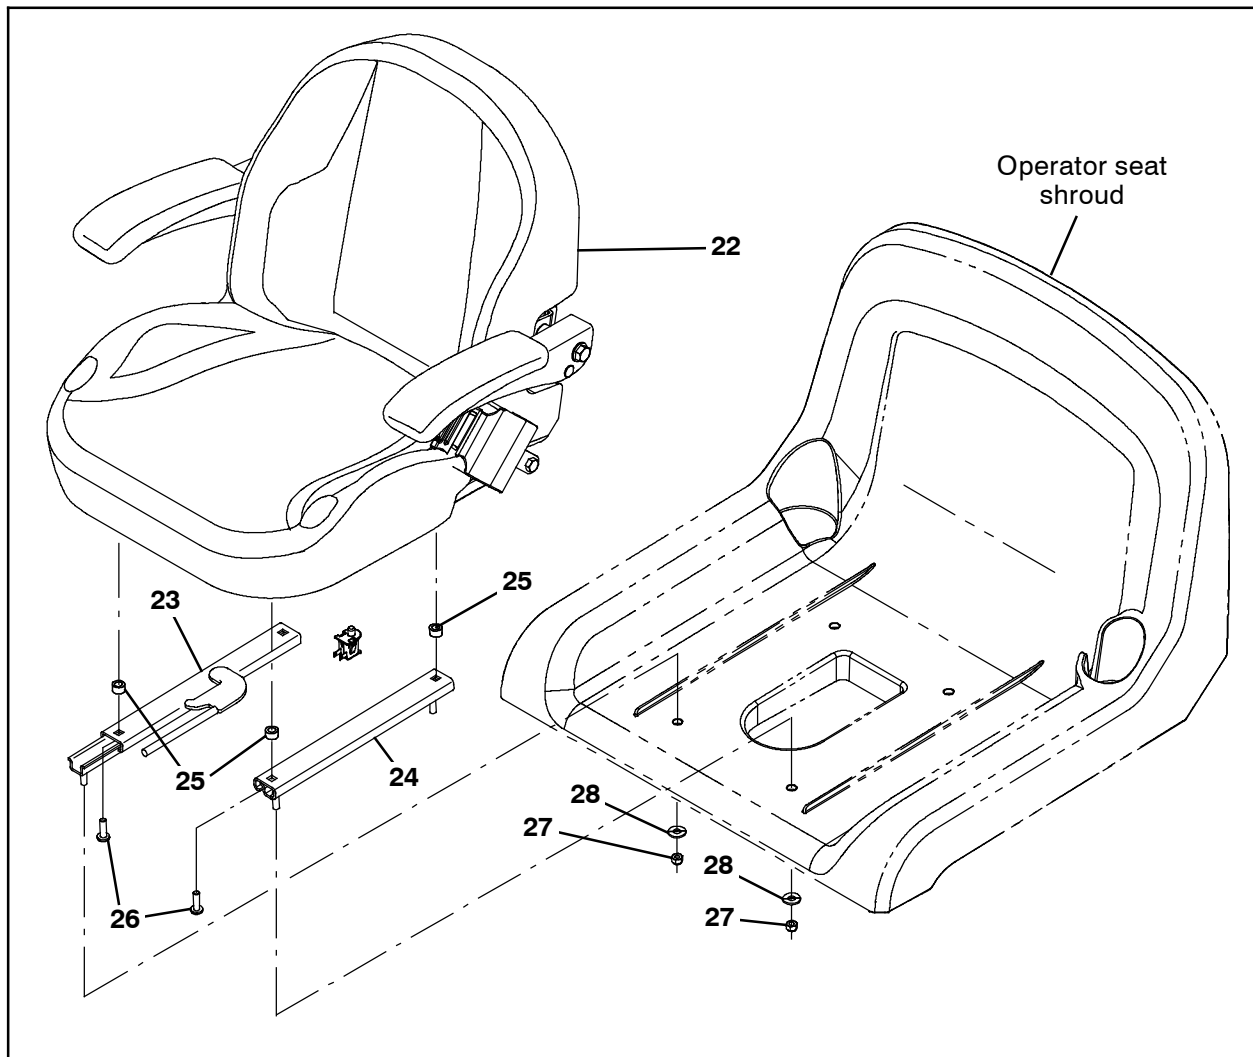

FIG. 6
15. Apply a light coat of blue Loctite onto four pan screws (26) that will be used to install the seat slide track with the handle (23) and the seat slide track (24) onto the seat (22). (Fig. 6)
16. Use two pan screws (26) and two spacers (25) to install the seat slide track with the handle (23) onto the new seat (22). (Fig. 6)
17. Use two pan screws (26) and two spacers (25) to install the seat slide track (24) onto the new operator seat (22). (Fig. 6)
18. Use four hex nuts (27) and four flat washers (8) to install the operator seat (22) onto the operator seat shroud. (Fig. 6)